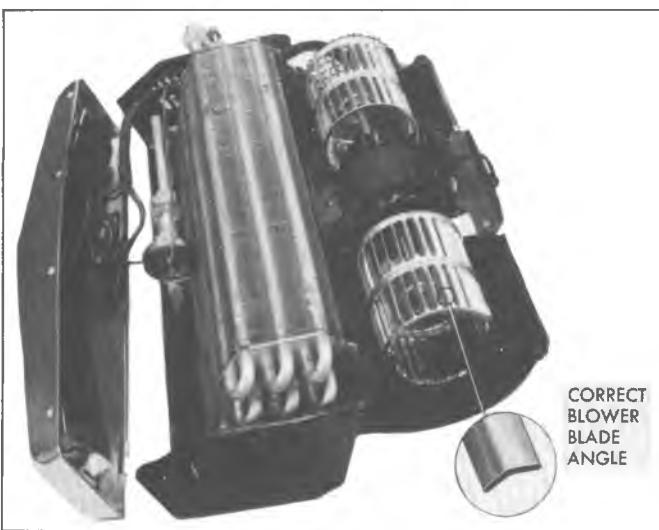

Fig. 98--Blower Assembly (Motor Home Chassis Unit)
Removal (Fig. 98)
1. Install the blower wheels on the motor so that the lower blades curve toward the dash panel side of the unit when the motor is placed in the case as illustrated in Figure 98.